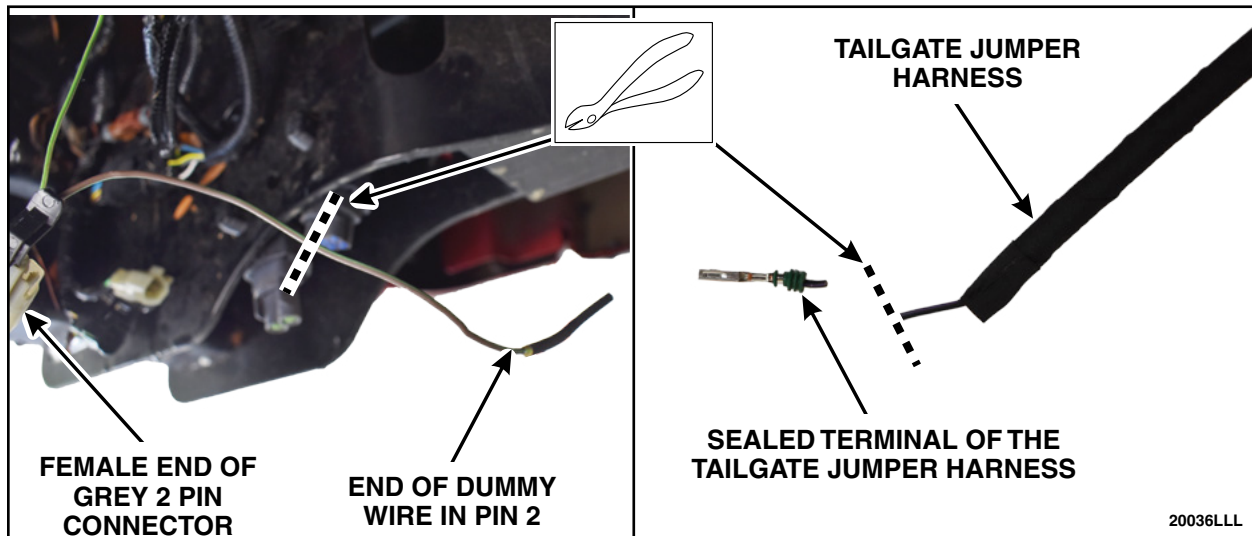

FIGURE 67
91. On the female end of the Grey 2 pin connector, cut the end of the dummy wire in Pin 2 halfway between the heat shrink and the connector. Cut off the sealed terminal on the Tailgate Jumper Harness. See Figure 67.